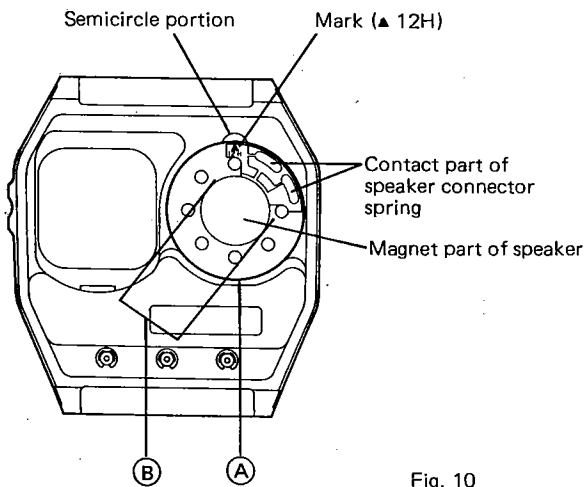

Fig. 10
Pry up the section (A) shown in Fig. 10 with the screwdriver, and the speaker is removed from the case. If the screwdriver slips out of place, the cone (vibrating plate) of the speaker may be damaged. Handle the speaker with care.
When handling the speaker singly, either pick up the section (B) shown in Fig. 10 with the tweezers or take up the circumference of the speaker with fingers. Be sure to handle the speaker with a stall on a finger, or it may be rusted.